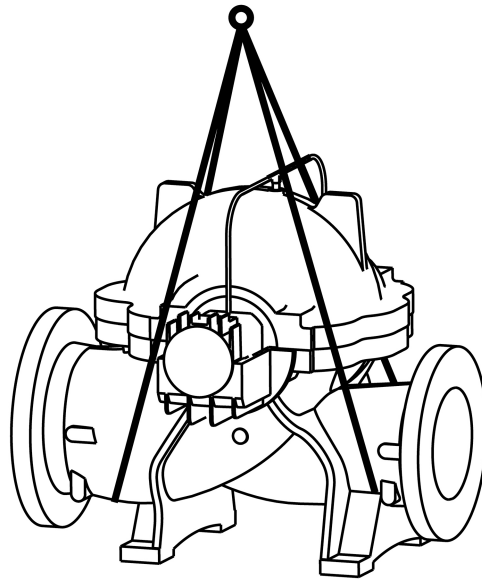

Figure 1: Sample pump end only lifting diagram
1. Using nylon slings, chains, or wire ropes, place the slings around the suction and discharge ports in a similar fashion as indicated in Figure 1.